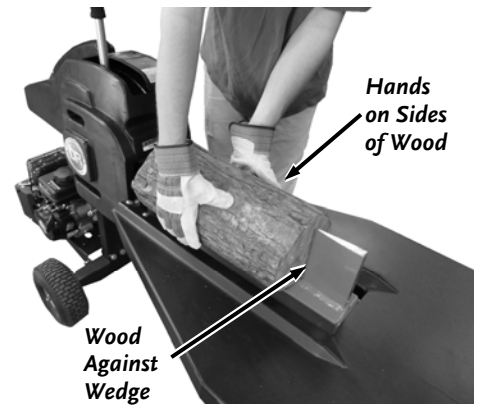

Figure 26
1. Place the log on the Log Splitter. Grasp the log on the sides near the middle of the block (**Figure 26**). Center the log, side-to-side, on the rail of the Log Splitter, making sure that one end is against the Splitting Wedge.